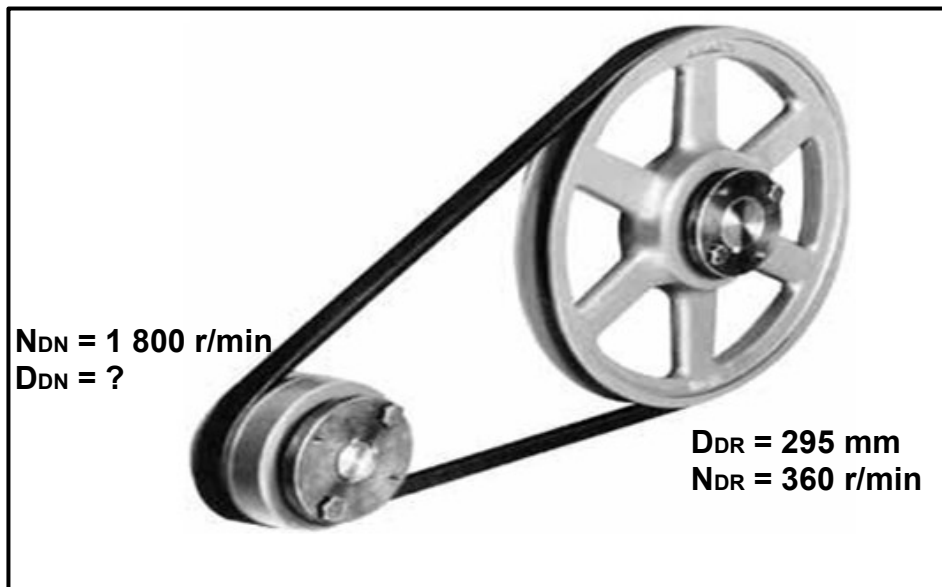

FIGURE 11.5
11.5 FIGURE 11.5 below shows a belt drive system.